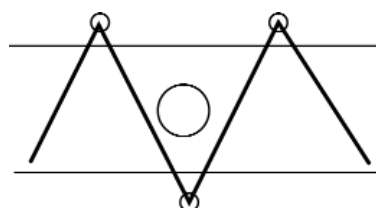

FIGURE 11
**NOTE:** INSTALL WING TRAMPS SO LACE LINES DO NOT INTERFERE WITH CUP HOLDERS (FIGURE 11)